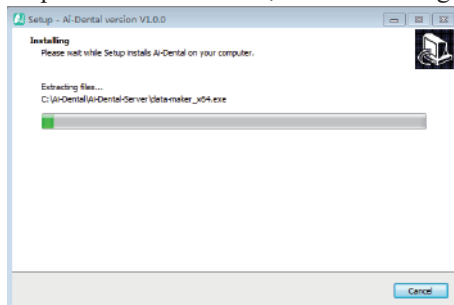

Figure 8
g) After the “Install” button is clicked, the program starts to install. The user just waits for the completion of installation, as shown in Figure 8: